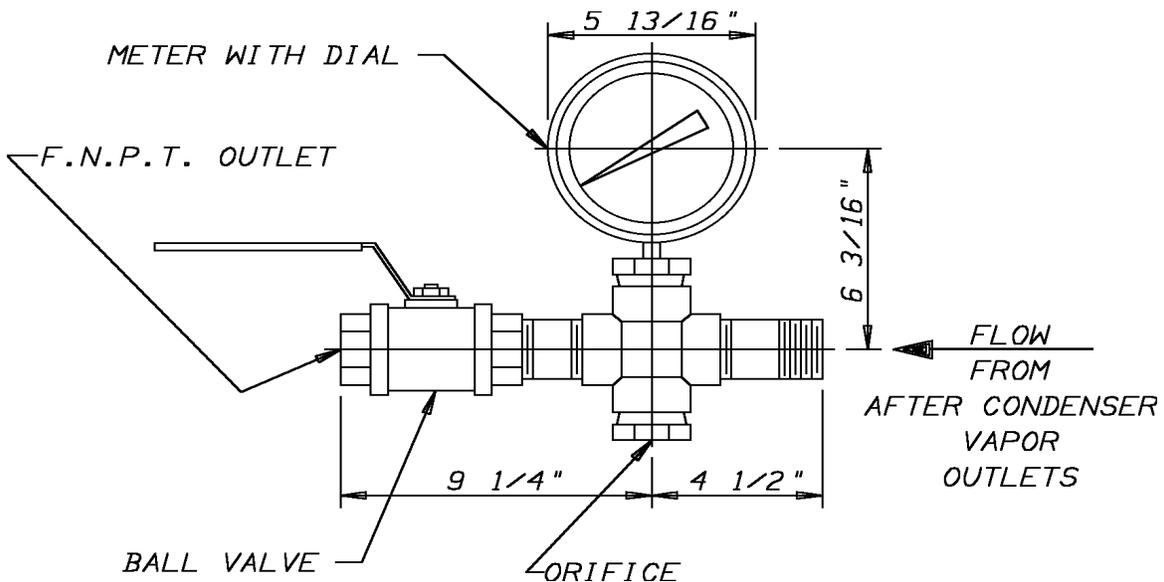

Figure 1
2.1 Installation (See Figure 1) .....	3
### 2.1 INSTALLATION (See Figure 1)
**2.1 INSTALLATION (See Figure 1), continued**